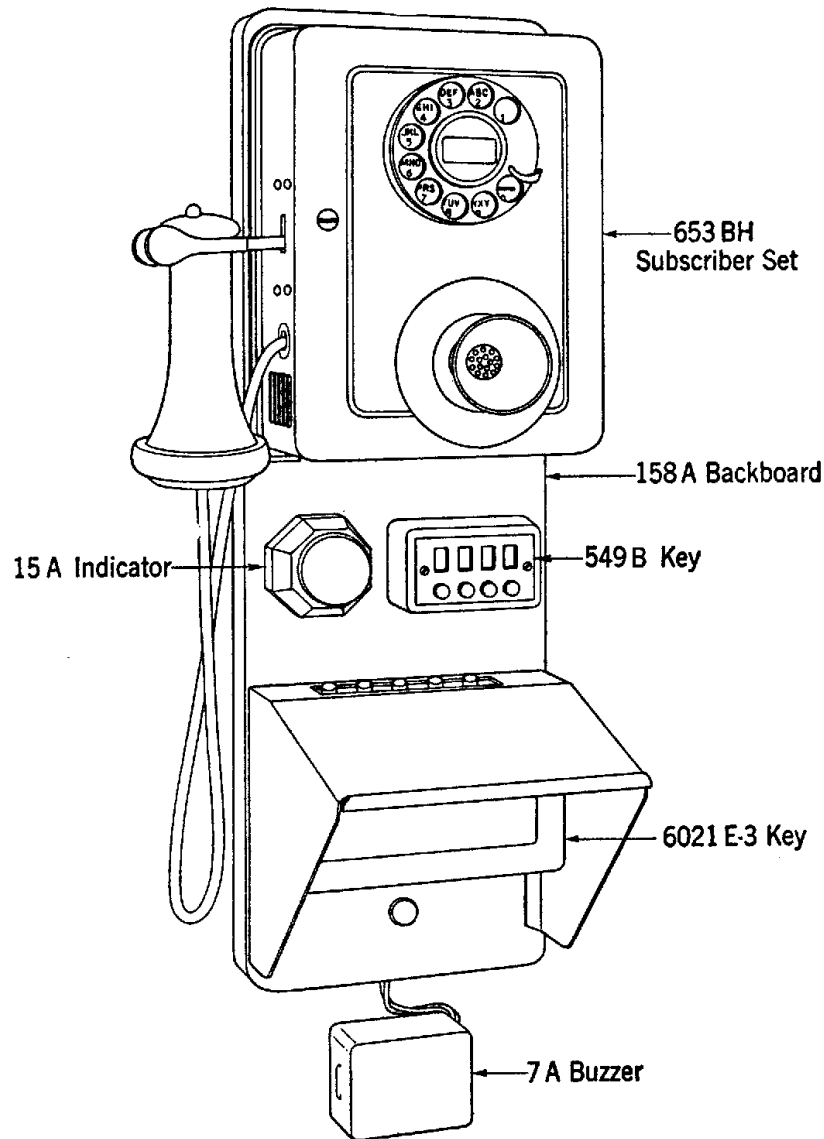

Fig. 7—Equipment Arrangement at Wall Set Station.
3.06 A typical arrangement of equipment at a wall set station, using the 158A backboard, is illustrated in Fig. 7, which shows a line and intercommunicating key station with code and selective buzzer keys, line busy lamp and separately mounted buzzer.